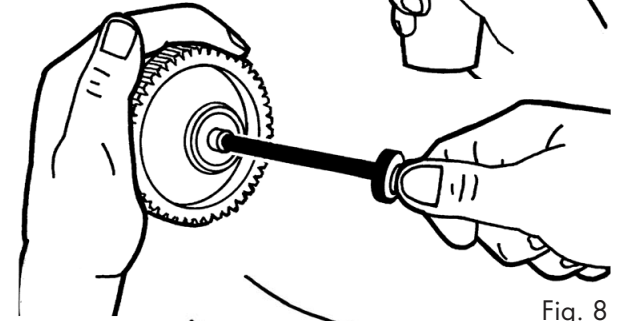

Fig. 8
3. To repair drive and pinion gears, remove 6mm screw. Slide parts off. Replace parts if required. Fig. 8.